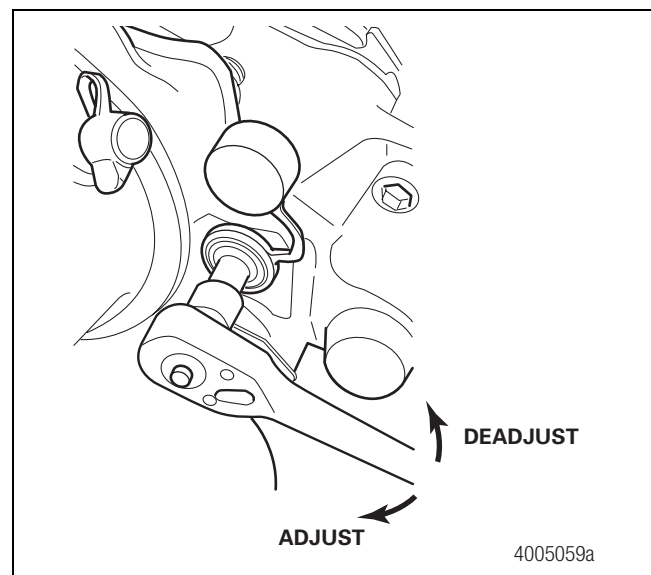

Figure 4.19
- Use a 10 mm wrench to rotate the manual adjuster stem CLOCKWISE so that the brake pad-to-rotor clearance is ZERO. Figure 4.19.
- Deadjust the manual adjuster stem one half turn COUNTER-CLOCKWISE to set the initial running clearance. Reinstall the adjuster cover. Figure 4.19.